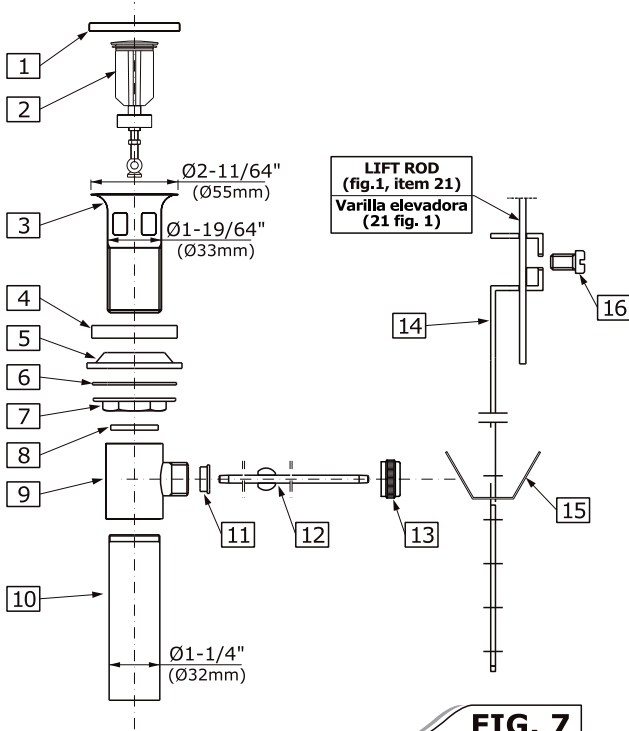

FIG. 7
See fig. 7
- ➔ Dismantle the drain assembly to the parts shown on fig. 7.
- ➔ Insert collar gasket (4) and drain collar (3) into drain hole of a bidet. From underneath the bidet slip under-bowl gasket (5) into drain collar (3), washer (6) and flanged nut (7).
- ➔ Position under-bowl gasket (5) correctly under the bidet and screw flanged nut (7) firmly but do not overtighten.
- ➔ Make sure washer (8) is inside drain body (9) and screw drain body (9) onto drain collar (3) hand tighten only.